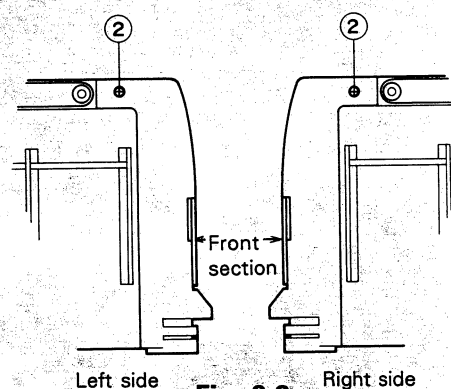

Fig. 2-2
2. Remove two screws (2) retaining the cabinet from the both sides of the front cabinet. (Fig. 2-2)